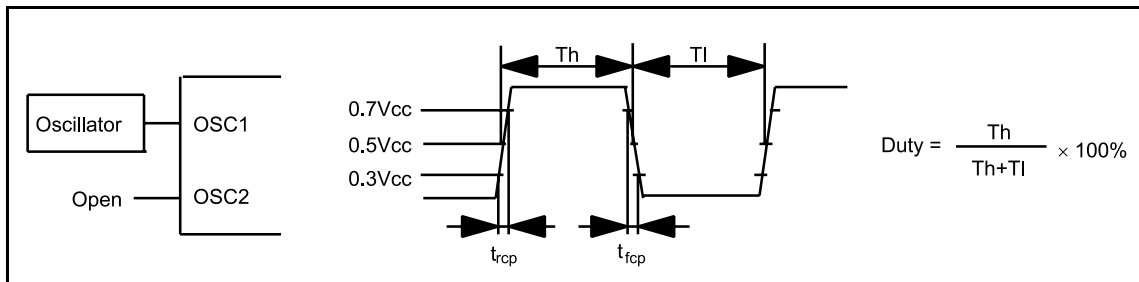

Figure 38 External Clock Supply
8. Applies to the external clock input (figure 38).